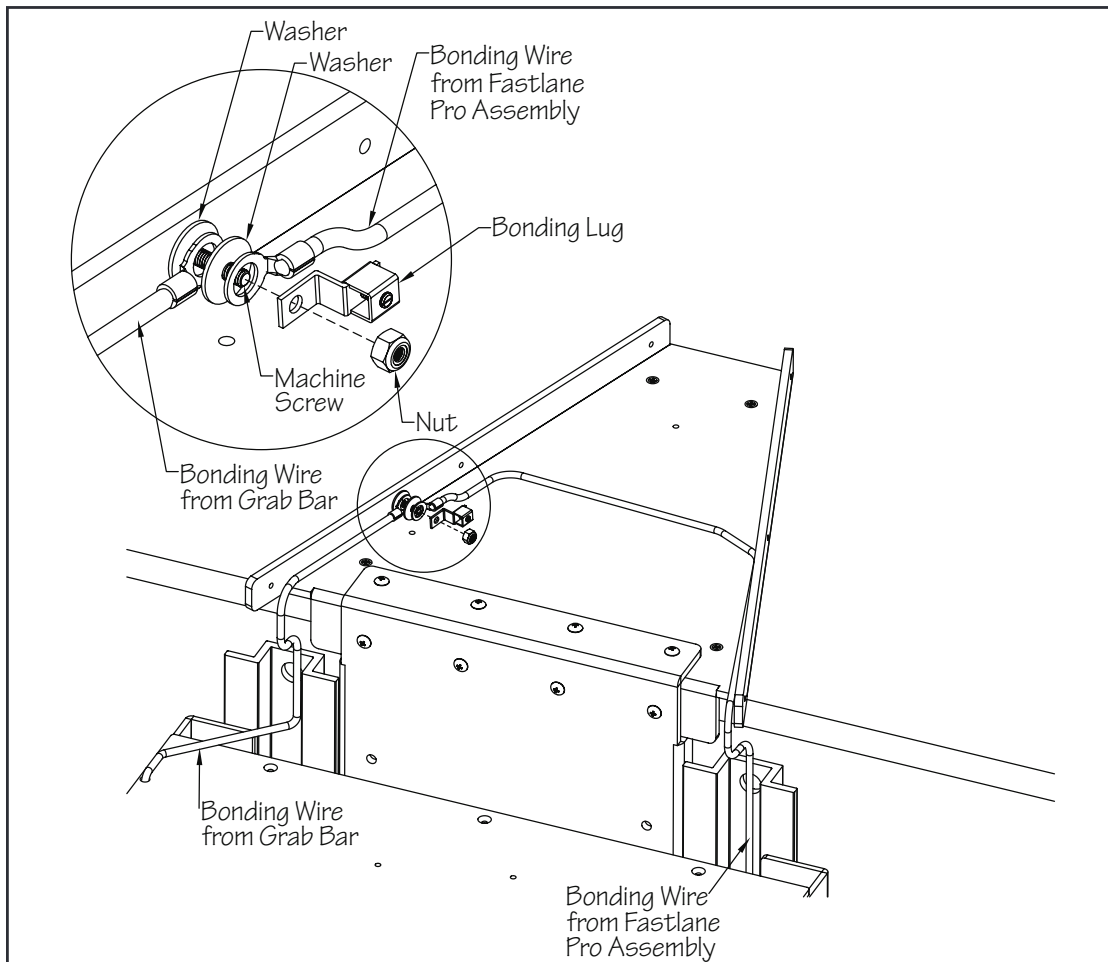

Fig. 9.4
9.4 The next step is bonding the Fastlane Pro. Hardware for bonding the swim unit is included in hardware kit. Insert the machine screw into the countersunk hole on the left side of the deck plate bottom. On the inside of the deck plate, place a washer on the screw. Attach the bonding wire from the grab to the screw followed by another washer. On the right side of the unit, route the bonding wire, pre-attached to the swim unit, to the machine screw. Attach the copper bonding lug and nut to secure the bonding wires. **IT IS CRITICAL THAT THE BONDING WIRES ARE ATTACHED PROPERLY** (Fig. 9.4).